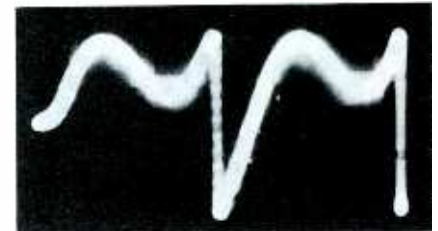

Fig. 5. *Synchroguide* is properly adjusted when waveform looks like this.
*Synchroguides* can be most accurately adjusted by setting up the circuit to generate the familiar waveform shown in Fig. 5. However, in the field—when you have no scope—you can nearly always stabilize a “Christmas-treeing” oscillator by simply backing the phase (waveform) slug out of the coil about a turn and a half. This raises the frequency of the sine wave developed by the phase coil. This signal gives trouble when it falls too close to the horizontal oscillator frequency—it must always be above it!